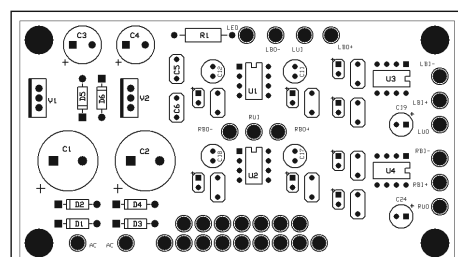

FIGURE 2: Layout diagram.
- A component layout diagram without pins as shown in Fig. 2.